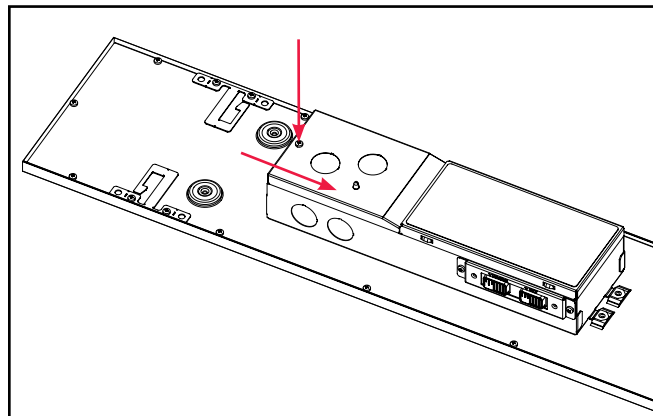

Figure 6.
- Tuck all wires and wire nuts into the fixture junction box, replace electrical access plate, and fasten screw. (Figure 6.)